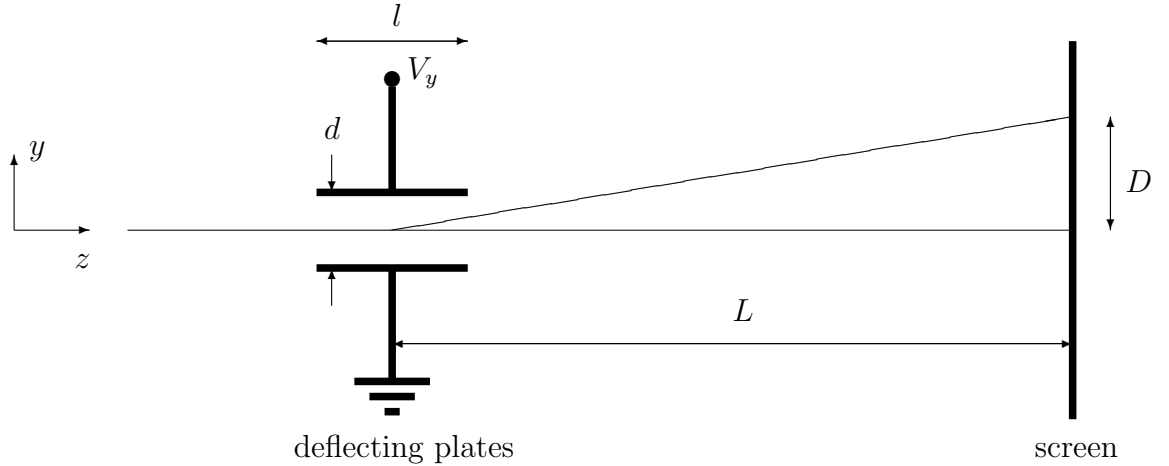

Figure 2. Deflection of electron beam in the tube.
where  $d$  is the plate separation (see Fig. 2). This electric field will accelerate electrons in vertical directions with  $a_y$  which can be obtained from formulae (1), (3) and (5):
The quantity measured in the experiment is the vertical beam displacement  $D$  on the screen (see Fig. 2). Electrons travel with constant velocity between the plates and the